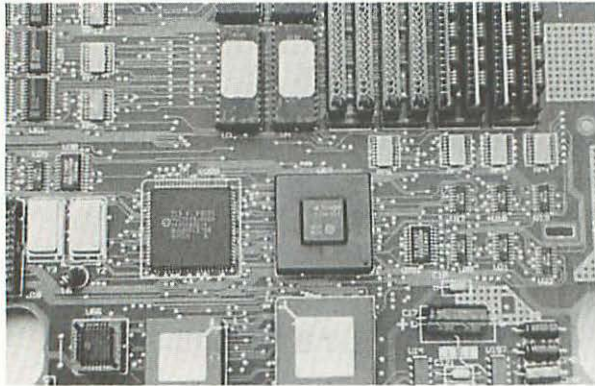

Figure 8-3 On the original Macintosh II logic board, the ROMs are at board references U5, U6, U3, and U4. The IWM is at board reference U66.
The official Apple FDHD Macintosh II Upgrade Kit, part number M0244, provides the five chips you need to get a 1.4 MB super drive working in an original Macintosh II. Table 8-2 provides a parts list with board references for various revisions of the Macintosh II logic board. Figure 8-3 shows the general area where the five chips are located.
6. Observe the existing chip orientation. As shown in Figure 8-3, the left side of the PLC is beveled. A dot printed on top of the PLC faces the power supply. It's very important to note the orientation details now, before you remove the existing IWM, so that there is no confusion when it comes time to insert the replacement chip.
7. Remove the IWM. As shown in Figure 8-3, the upper-left and lower-right corners of the IWM socket are slotted. The easiest way to remove the chip is with a PLC removal tool, but you can also pry it out (very carefully) using a #2 jeweler's screwdriver. Insert the screwdriver tip into one of the slots (between the chip and the PLC socket, not between the socket and the logic board) and pry gently. Take tiny bites. Move the tool back and forth from slot to slot. Don't try to pop the chip entirely from one slot. Brute force doesn't work. As with all delicate work: "*Não é a força, mas é o jeito.*" (It's not the force, it's the technique.) If you don't use *jeito*, (if you don't take tiny bites and move the tool back and forth from slot to slot) you may snap the tool, or you may break the PLC socket.
10. Observe the existing chip orientation. As shown in Figure 8-3, one end of each ROM chip is notched. Each notch faces the front of the CPU cabinet. It's very important to note the orientation details now, before you remove the existing ROMs, so that there will be no confusion when it comes time to insert the replacement ROMs.